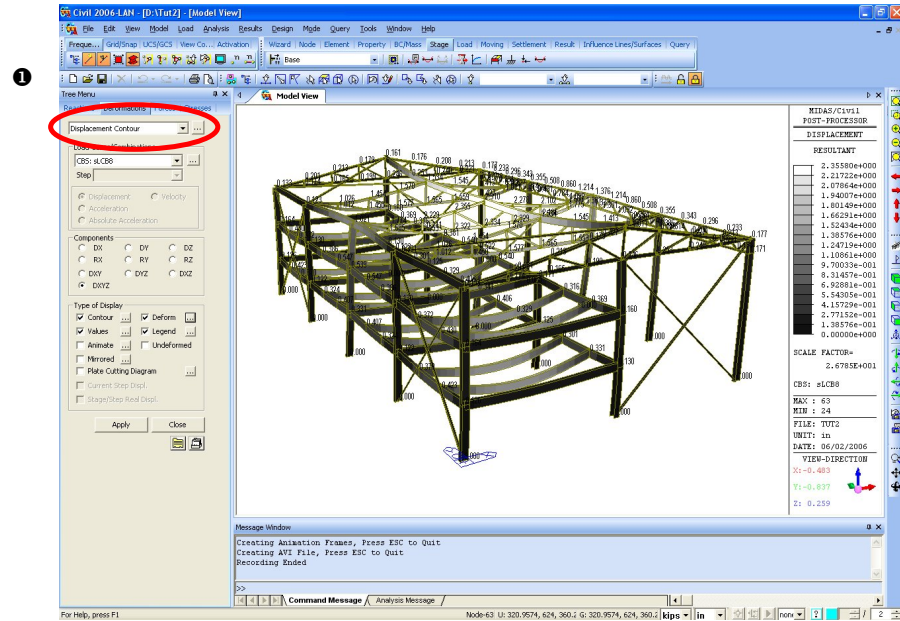

Figure 2.30 Contour of the Deformed Shape
2. Select Deform in the post-processing functions tab (Fig.2.30–①).